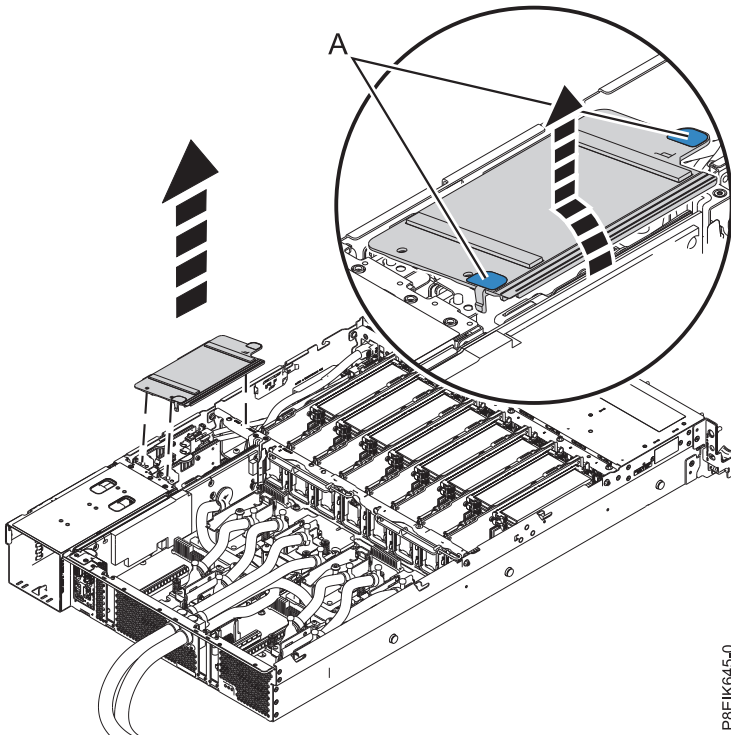

Figure 97. Removing the power riser air baffle
2. Remove the power riser air baffle. Using the blue tabs (A), unsnap the baffle and lift it from the system. See Figure 97.